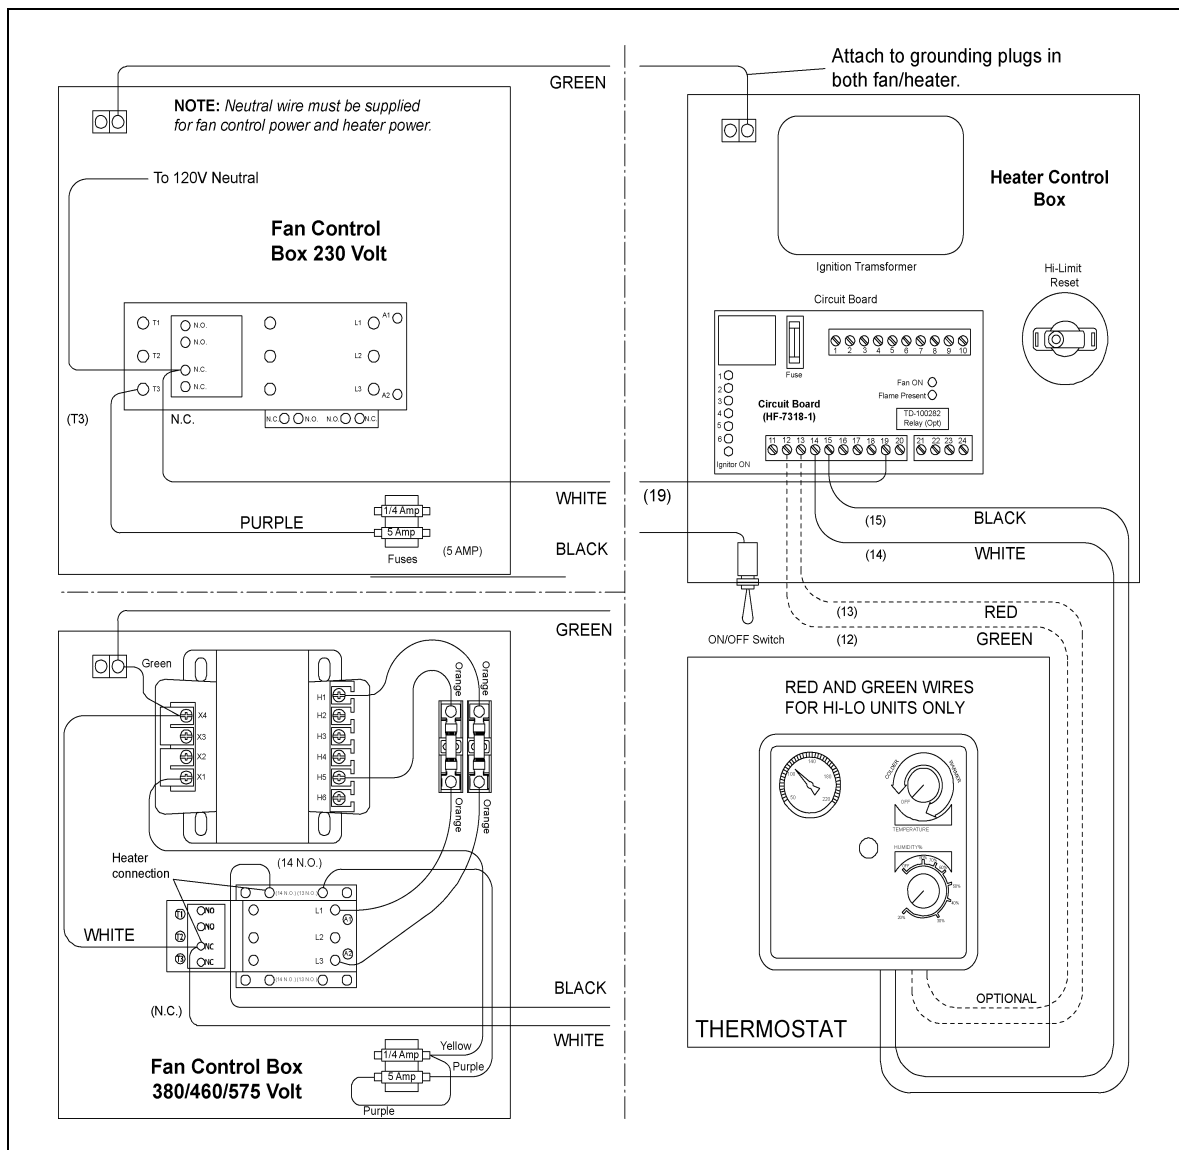

Figure 5E
2. Make field connections in fan box as shown in *Figure 5E*.
3. Connect deluxe thermostat control as shown in *Figure 5E*.